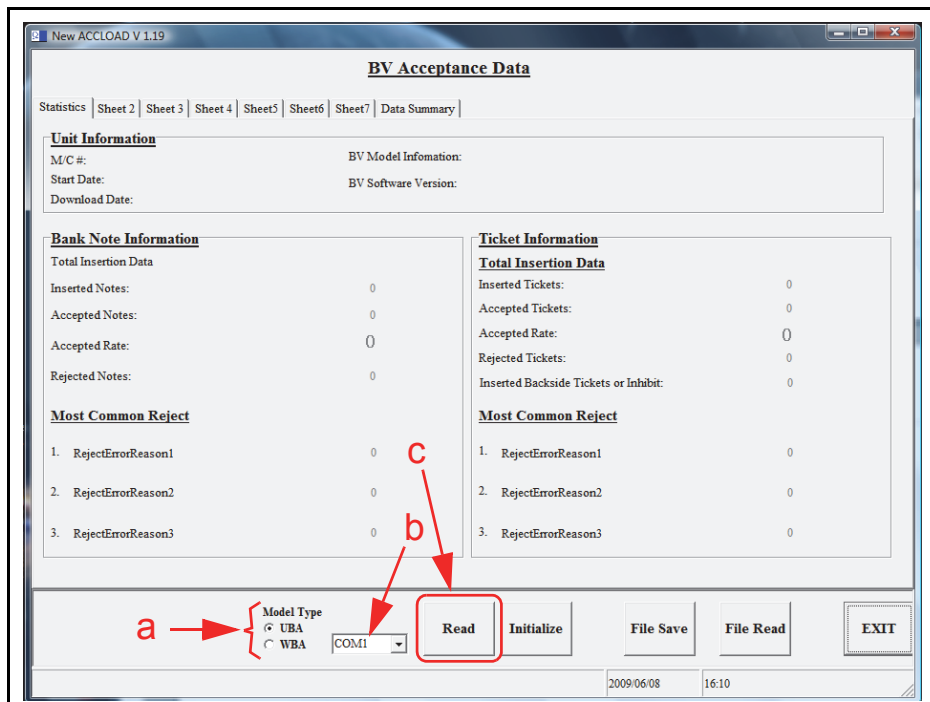

Figure 2 Initial AccLoad Program Screen
5. Open the Accload™ Program and Figure 2 will appear.
1. Select the Acceptor Model Type (See Figure 2 a).
2. Select the COM Port from the Pull-Down Menu where the Acceptor is connected (See Figure 2 b).
3. Mouse-click on the "**Read**" Screen Button (See Figure 2 c). The Accload™ Data will be retrieved from the Acceptor and displayed in each related area on the Figure 2 PC Accload™ Initial Program Page above the Screen Button.
1. **Read** – The Read Screen Button ① is used to read and/or retrieve the Accload™ information from within an Acceptor.
2. **Initialize** – The “Initialize” Screen Button ② is used to clear the Accload™ information from the Acceptor. All of the Screen Fields are initialized to a Zero (0) value state. When the “Initialize” Screen Button is selected, the Input M/C # Screen appears. An identifying Alpha-Numeric Tag can then be input. The Tag saves to the UBA® or WBA® Unit Memory, and will appear on the display when the Accload™ data is read. Selecting “Initialize” also records the PC Date and Time and stores it to the WBA® or UBA® Unit.
3. **File Save** – The “File Save” Screen Button ③ allows the Accload™ data to be saved to a file on the PC. When selected the “Save As” Screen appears to allow a user to input a selected file name and directory location.
4. **File Read** – The “File Read” Screen Button ④ is selected when an existing Accload™ file on the PC needs to be viewed.
5. **EXIT** – The “Exit” Screen Button ⑤ is used to close and exit the program.
**NOTE:** The “Model Type” and Com Port Selection process was previously explained with Figure 2 on page 4 of this Guide.